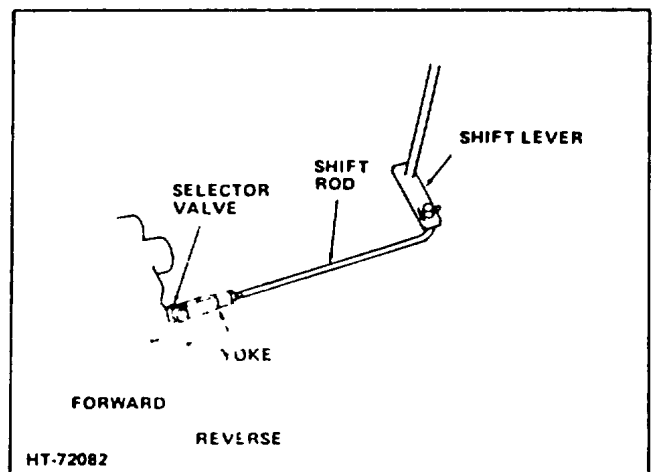

Figure 23. Shift-Selector Assembly
2. Disconnect shifting rod yoke from transmission shifting shaft (Figure 23).
3. Detach the shift rod from the shift lever by removing cotter pin, but leave shift rod connected to selector valve. (See Figure 23).